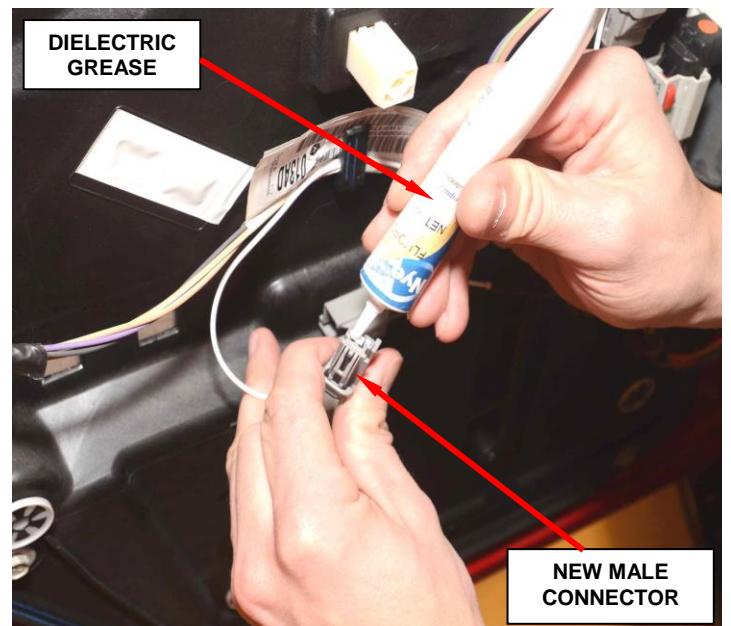

Figure 12 – Apply Grease to Connector
22. Apply a bead of dielectric grease to the face of the male connector (Figure 12).